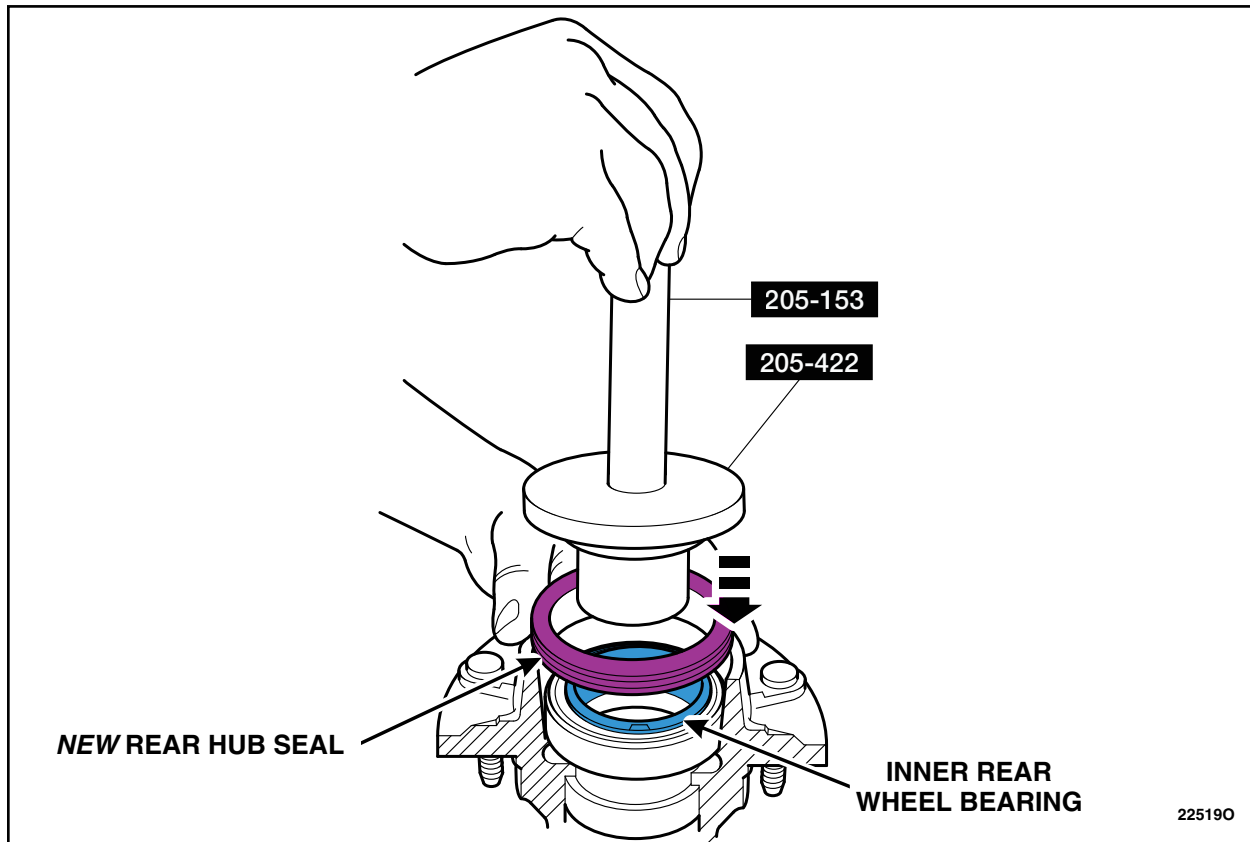

FIGURE 14
14. For a wheel hub and rotor assembly that **PASSED** inspection, install the rear inner wheel hub bearing and the *new* rear hub seal in the original rear wheel hub using special tools 205-153 and 205-422 Wheel Hub Oil Seal installer. See Figure 14.
For a wheel hub and rotor assembly or assemblies that **DID NOT PASS** inspection, install the inner rear wheel bearing(s) and a *new* rear hub seal(s) into the *new* wheel hub(s) using special tools 205-153 and 205-422 Wheel Hub Oil Seal installer. See Figure 14.